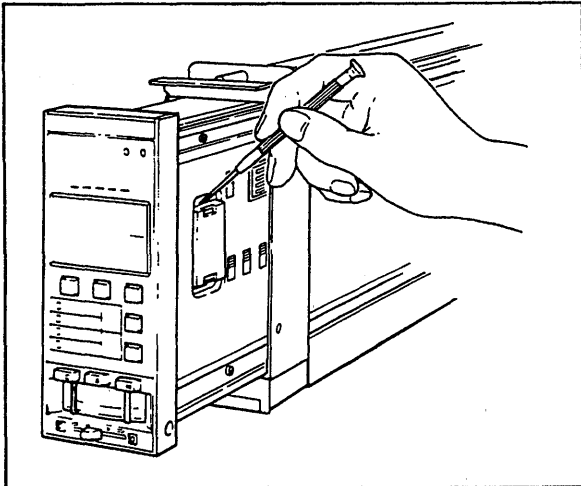

Figure 6-4-1. Removing Battery Cover.
- (1) Draw out the controller module a little from the housing, and remove the battery cover and battery. (See Figures 6-4-1 and 6-4-2.)
- (2) Install a new battery, and fit the battery cover securely.
- (3) Make sure that the ALM lamp on the front panel has stopped flashing.